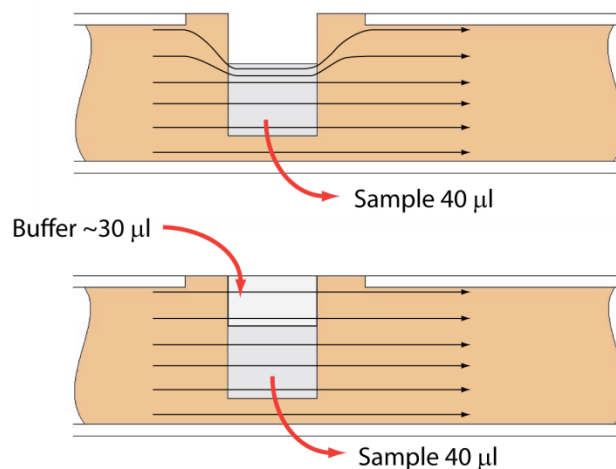

Figure 11.1. An illustration of the electrophoretic effect on a DNA sample when a sample well is not completely filled.
Proper sample loading is critical for best performance of BluePippin cassettes. For maximum reproducibility and accuracy, the sample should travel through the central section of the gel column, and should be bounded on all four sides by uniformly conductive media – either gel or electrophoresis buffer. The goal of the loading procedure is to produce this geometry in the sample loading well, as illustrated in the bottom section of **Figure 11.1**. Properly prepared samples will be 40 μ l in total volume consisting of 30 μ l of DNA mixed with 10 μ l of BluePippin internal standard mix or loading solution. The loading solution contains concentrated Ficoll as a densifying agent (see the previous chapter on Sample Preparation for details), and therefore the samples will sink and form a high density layer beneath the electrophoresis buffer when pipetted slowly into the sample wells. If there is insufficient conductive buffer over the sample, the electrophoretic forces lines will curve upward as the sample exits the well (see **Figure 11.1**, upper section), and the sample will be drawn to the top of the cassette where it can travel out of the gel into the gap between the gel column and the plastic top of the channel. Sample moving in this gap will travel at a different rate than the sample inside the gel column, and will lead to elution of undesired size fractions in the eluted material. In such cases, the contaminating DNA will usually (but not always) be higher in molecular weight than the selected DNA.
2. **Remove 40 μ l of buffer from the first sample well, and load 40 μ l of sample (or marker) into that well.** Take care not pierce the agarose with the pipette tip. There is gel on all sides and bottom of the sample well. In addition, there is an agarose “chimney” surrounding the top of the sample well that protrudes up through the cassette cover (see **Figure 11.1**). When removing buffer, some users find it useful to immerse the pipette tip just below the surface of the buffer and follow the liquid level down with the tip as the buffer is removed. When buffer removal is completed, there will be ~30 μ l of buffer left in the well. When adding sample, place tip of pipette just below the surface of the buffer, and follow the liquid level up with the tip as the well fills. Don't be concerned if the sample well slightly overfills. The density of the sample will allow it to sink before it can flow out of the well.